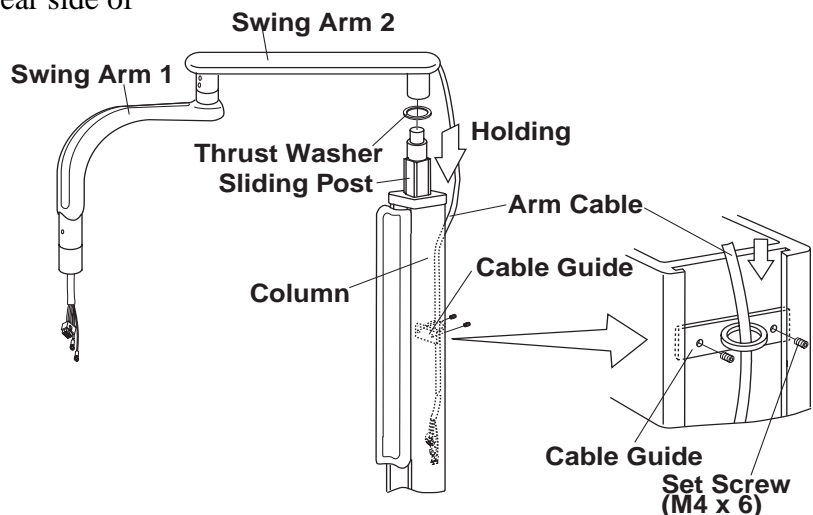

Fig.3-16 Swing Arm Installation
1. Pull down the sliding post into the column and hold it. Set the thrust washer on the top of sliding post. Keep holding the sliding post and insert the swing arm assembly on the top of sliding post. After setting the swing arm on the sliding post, slowly release the sliding post. (Fig.3-16)
2. Set and fix the cable guide on the rear side of column. (Fig.3-16)
4. Fix the cable guide on the rear side of column with 2 screws. (**Fig.3-16**)